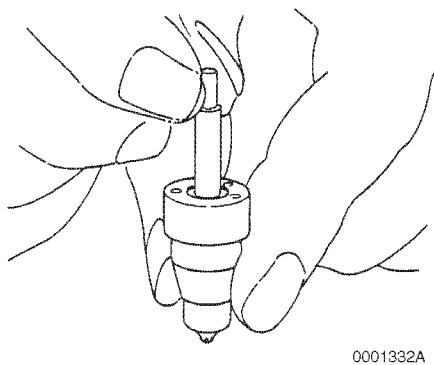

Figure 6-95
- (b) While holding the nozzle body vertical, pull the nozzle valve about two-thirds of the way out (**Figure 6-95**).